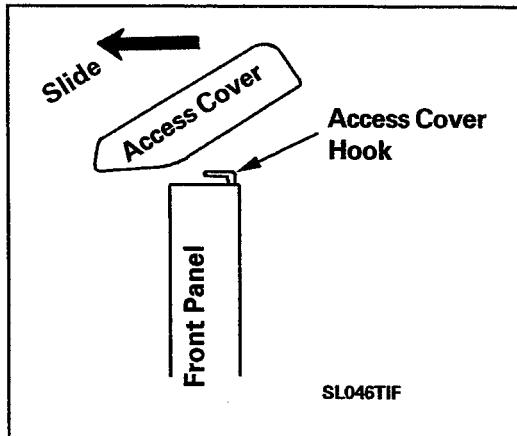

Figure 2-5
5. Carefully slide the access cover down and away from the machine to disengage the cover from retaining clips on the front shroud located above the front panel goalposts (*Figure 2-5*).